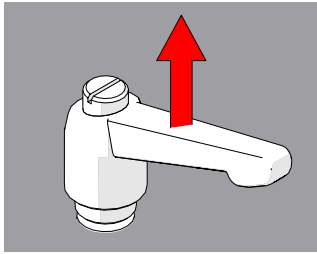

Fig. 218 - Pull ratchet handle
1. Pull the ratchet lever away from the base to which it is connected (*Fig. 218*).